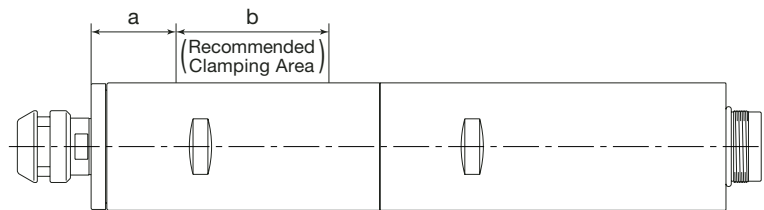

Fig. 27
- (1) When mounting the motor/spindle, refer to the recommended clamping area. (Fig. 27)